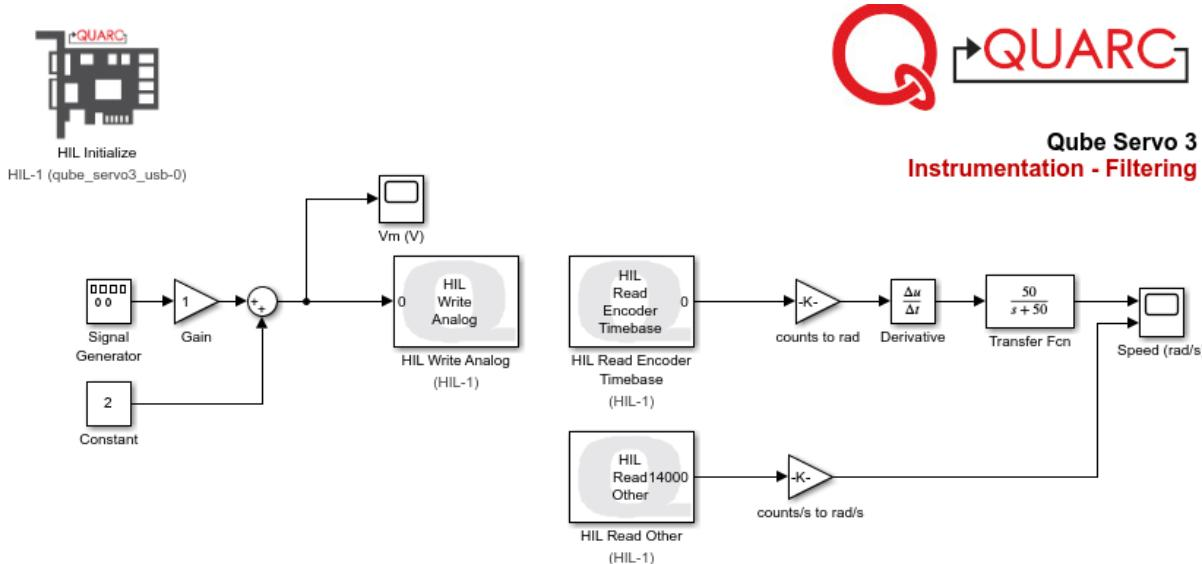

Figure 1. Measuring speed using the encoder
Based on the model developed in the Hardware Interfacing lab, the goal is to design a model that measures the servo velocity using the encoder as shown in Figure 1. Use qs3_filtering.slx as a starting point.
2. Build the Simulink diagram shown in Figure 1 but, for now, do not include the **Transfer Fcn** or the **HIL Read Other** block (will be added later).
3. Using the **Signal Generator** block, set it up to output a square wave with an amplitude of 1V at 0.4Hz. Use a Sum block as shown in Figure 1, to convert the output from -1V to 1 V to a square wave between 1 and 3 V.
6. One way to remove some of the high-frequency components is adding a low-pass filter (LPF) to the derivative output. Add a **Transfer Fcn** block, this could be by double clicking on an empty part of your model and typing it out or from the **Simulink | Continuous** **Simulink** library. Place this block after the **Derivative** output and connect the output of the **Transfer Fcn** to the **Scope**. Set the **Transfer Fcn** block to a cutoff frequency of 50rad/s so that your block shows $50/(s + 50)$, as illustrated in Figure 1.